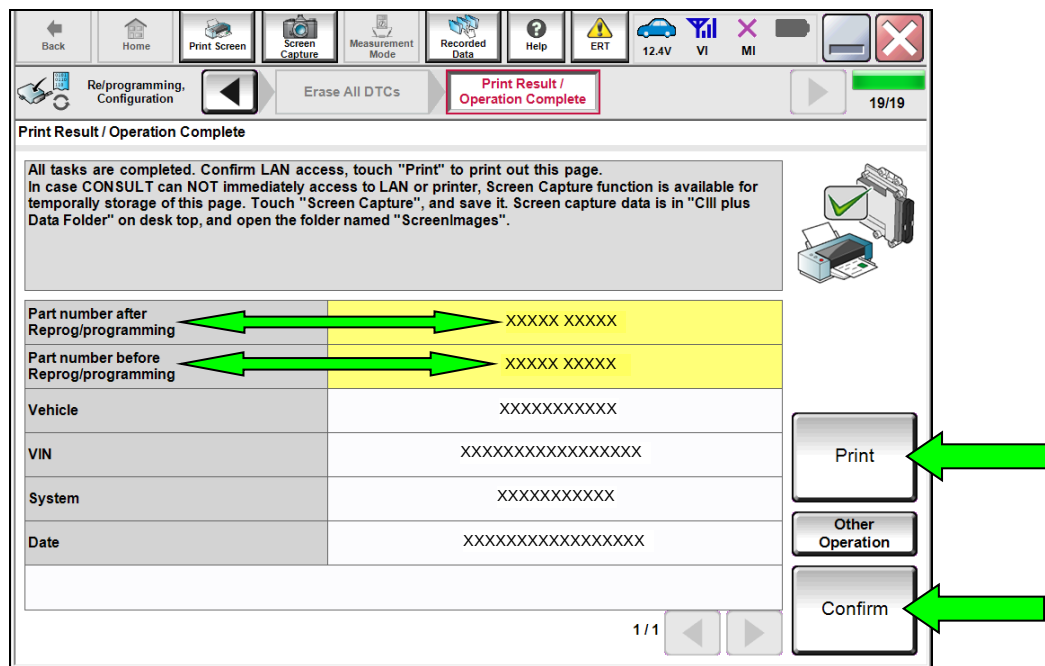

Figure 28
47. Verify the before and after part numbers are different (Figure 28).
48. Print a copy of Figure 28, and then attach it to the repair order.